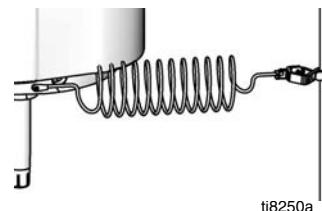

FIG. 8
**Pump:** use a ground wire and clamp. Loosen grounding lug locknut and washer. Insert one end of supplied ground wire into slot in lug and tighten locknut securely. Connect other end of wire to a true earth ground. See FIG. 8.